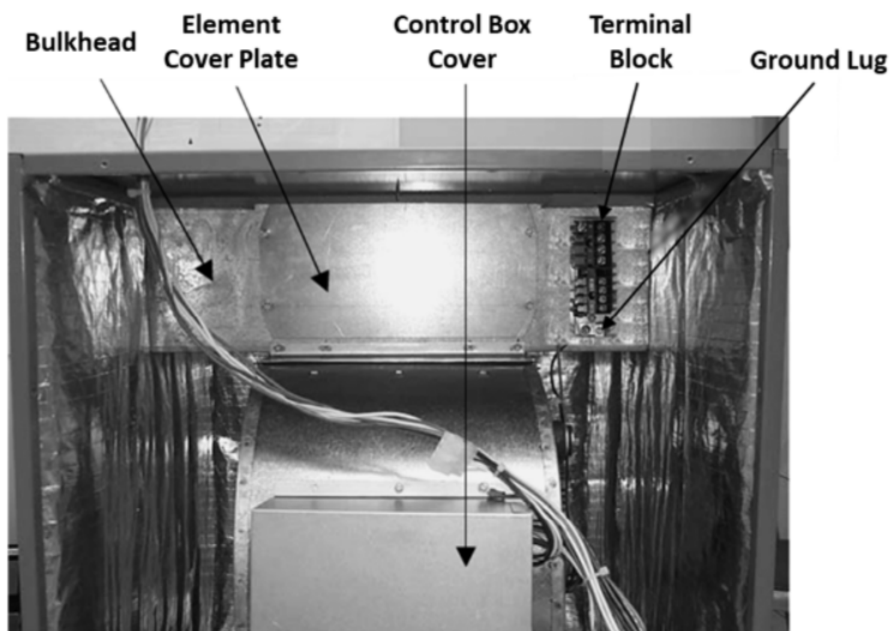

Figure 1
3. Remove heater **element cover plate** and discard. Keep the screws for heater kit installation. (Fig 1)